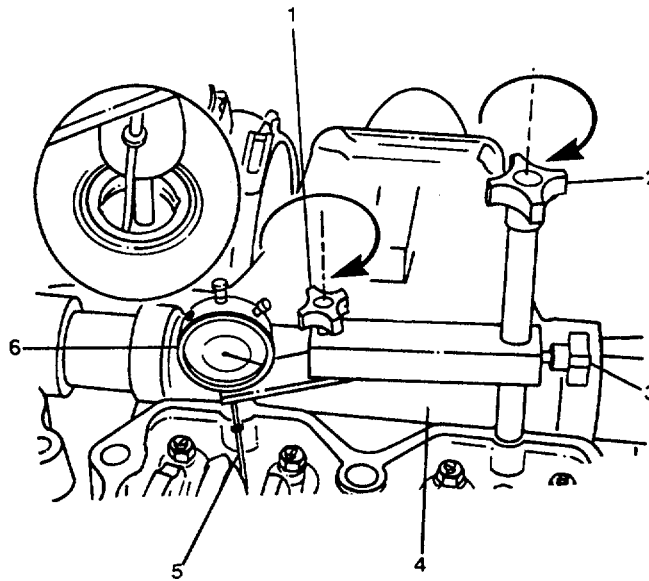

FIGURE 2-32. Installing Dial Indicator and Support.
To prevent damage to the indicator or to avoid getting an incorrect reading, install the dial indicator extension so that it clears the rocker lever. See Figure 2-32.
- (c) Install the dial indicator (6, Figure 2-32) and the support (4) from the Injector Adjustment Kit so that the stem (5) of the dial indicator is on top of the injector plunger flange on cylinder No. 3.
- (d) Securely tighten the thumbscrew (1) and the holddown screw (2) in place.
- (e) Loosen the thumbscrew (3) and lower the indicator against the injector plunger flange until the stem (5) is fully compressed.